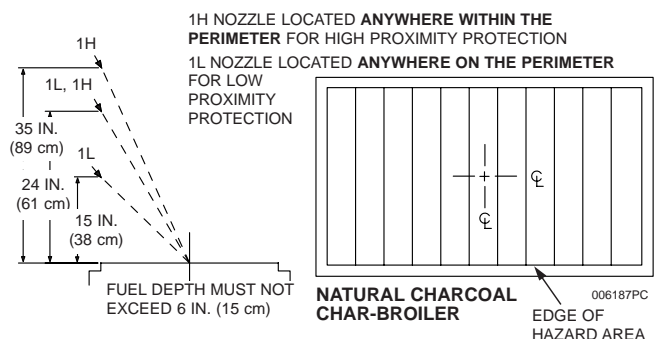

Figure 3-13.
The 1H nozzle, Part No. 551029, is used for high proximity natural charcoal char-broiler protection. This nozzle is a one (1) flow nozzle. The nozzle must be located **anywhere within the perimeter** of the hazard area, 24 in. to 35 in. (61 to 89 cm) above the cooking surface of the appliance and aimed at the center of the broiler surface. See **Figure 3-13**.
The 1L nozzle, Part No. 551026, is used for low proximity natural charcoal char-broiler protection. This nozzle is a one (1) flow nozzle. The nozzle must be located **anywhere on the perimeter** of the hazard surface, 15 in. to 24 in. (38 to 61 cm) above the cooking surface of the appliance and aimed at the center of the broiler surface. See **Figure 3-13**.